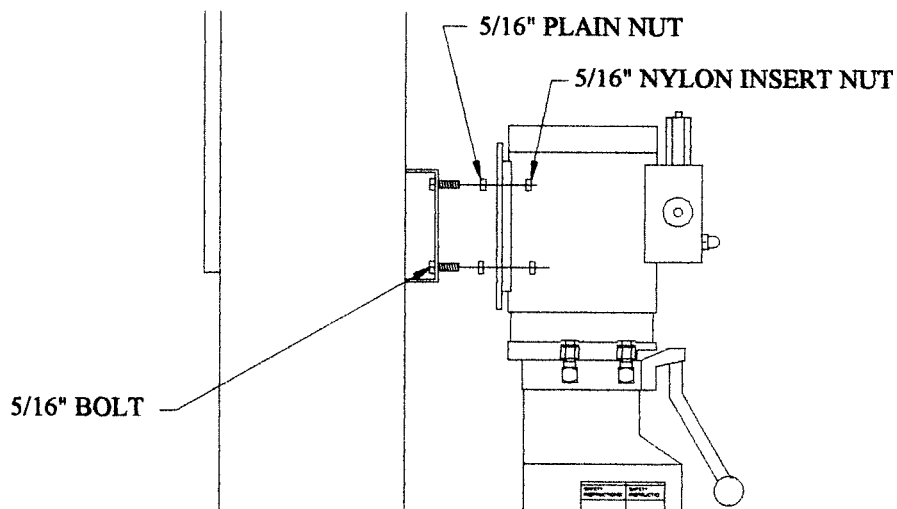

FIGURE 9
22. Locate the power unit mount holes on the back of the mainside leg. Insert the 5/16" x 1" bolts to face the outside and secure with 5/16" plain nuts. Attach the power unit to the bolts and secure with 5/16" nylon insert nuts. Figure 9.